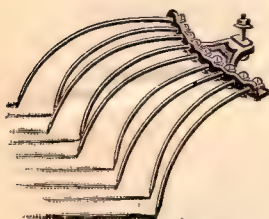

Fig. 84. Price, 75c.
**Fig. 84. Weeder Attachment** for the No. 9 and No. 10 Single Wheel Hoe. By the application of this to the rear of the Single Wheel Hoe the same admirable work is accomplished, of fining the soil and destroying the countless small weeds, just pushing above the ground, as by the similar attachment to the Double Wheel Hoe. The Weeder can be reduced in width to pass through narrow rows by removal of a portion of the teeth.